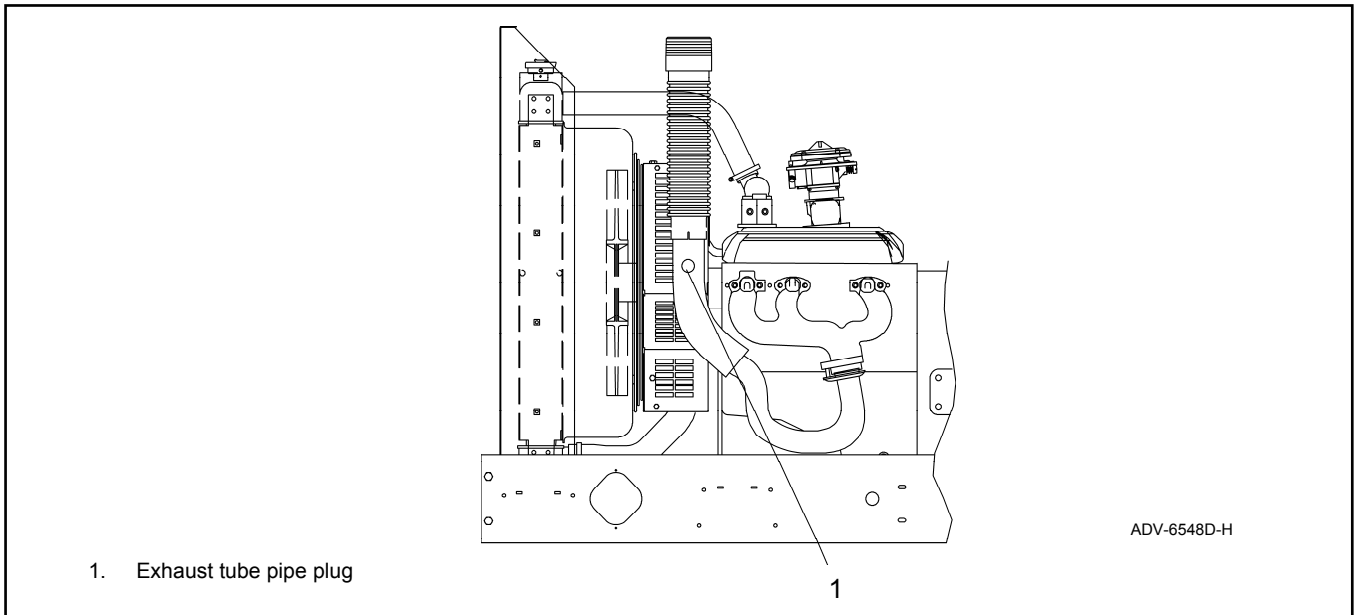
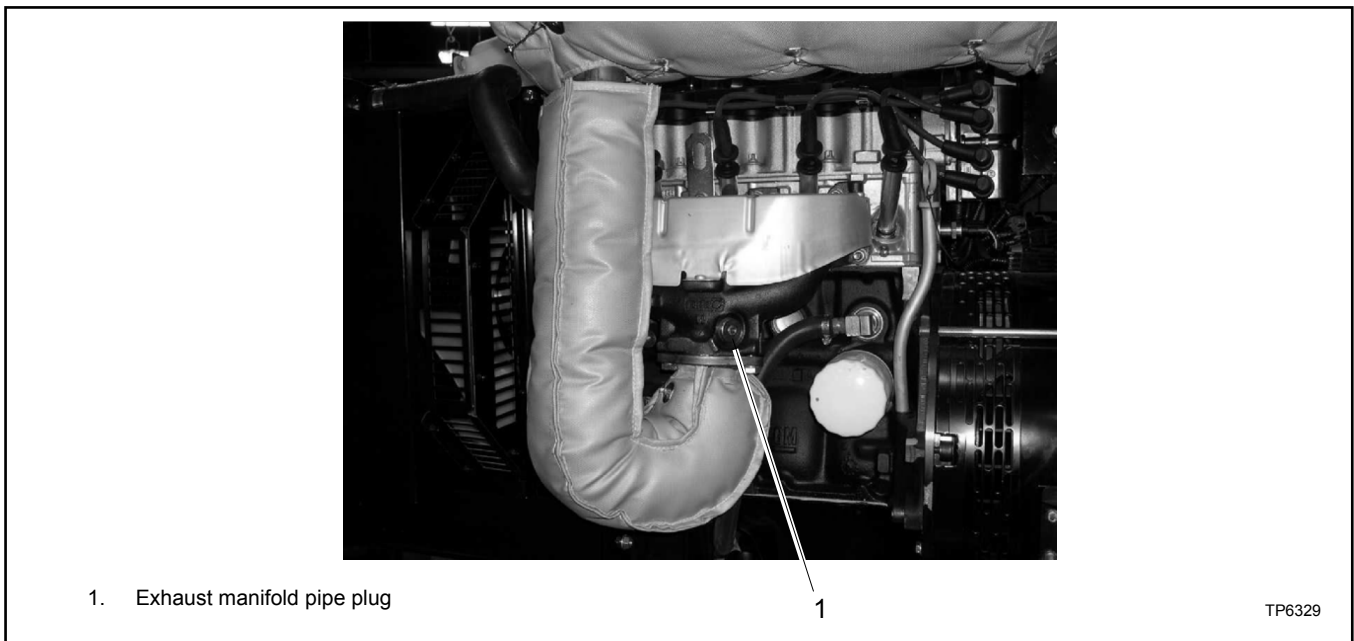

Figure 4 Oxygen Sensor Mounting Location, Typical (30 kW model shown)
Figure 5 Oxygen Sensor Mounting Location, 15/30 kW with GM1.6 L Engine
1. Remove the oxygen sensor pipe plug from the exhaust pipe. See Figure 4 or Figure 5 for the location.